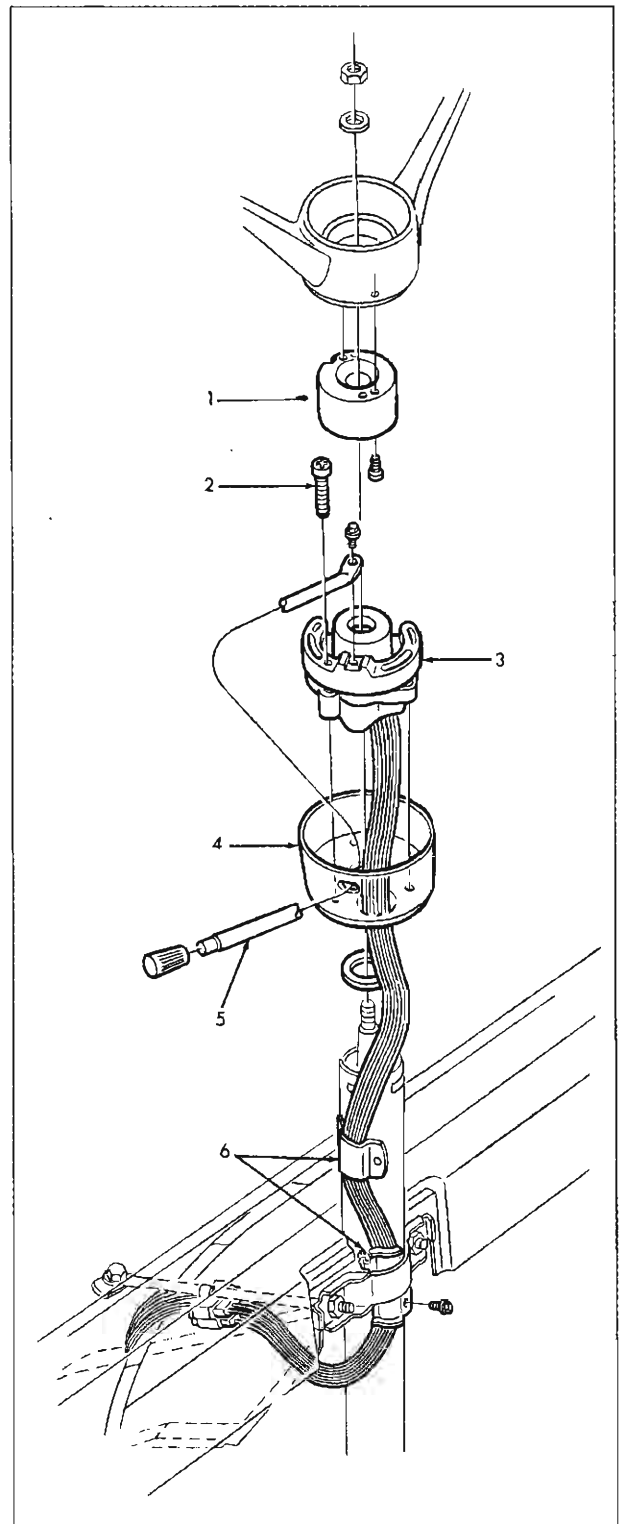

Fig. 41—Directional Signal Assembly (Chevrolet)
**DIRECTIONAL SIGNAL****REMOVAL AND INSTALLATION****Chevrolet (Fig. 41)**